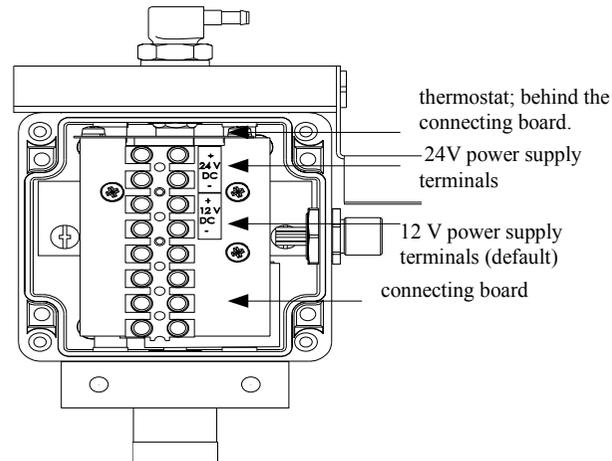

Figure 3. Connecting board.
2. Remove the connecting board (Figure 3) by unscrewing the 3 screws.